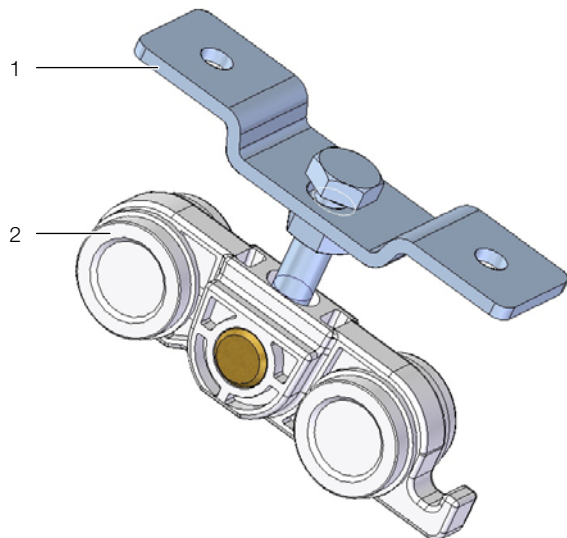

Fig. 20: Flange with rolling apparatus pre-installation
On the upper side of both doors, install two flanges, to which the rolling apparatus was attached previously, 72 mm from the outer edge of each door (fig. 20).
- As shown in fig. 20, insert the screw through the flange, reattach the locking nut and retighten the screw into the rolling apparatus. This allows the doors to be aligned parallel to the base or to the guide rail later.